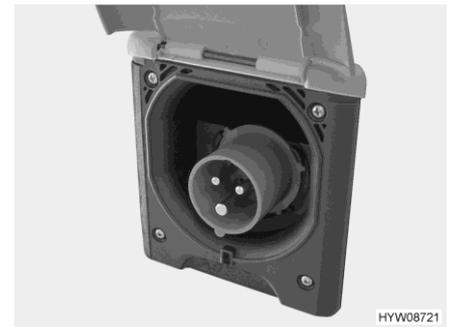

Fig. 72 230 V connection on the vehicle (CEE socket outlet)
- Open the cover of the 230 V connection on the vehicle (Fig. 72) and insert the plug connector. Ensure that the detent of the spring-mounted pivoting cover is engaged in position.